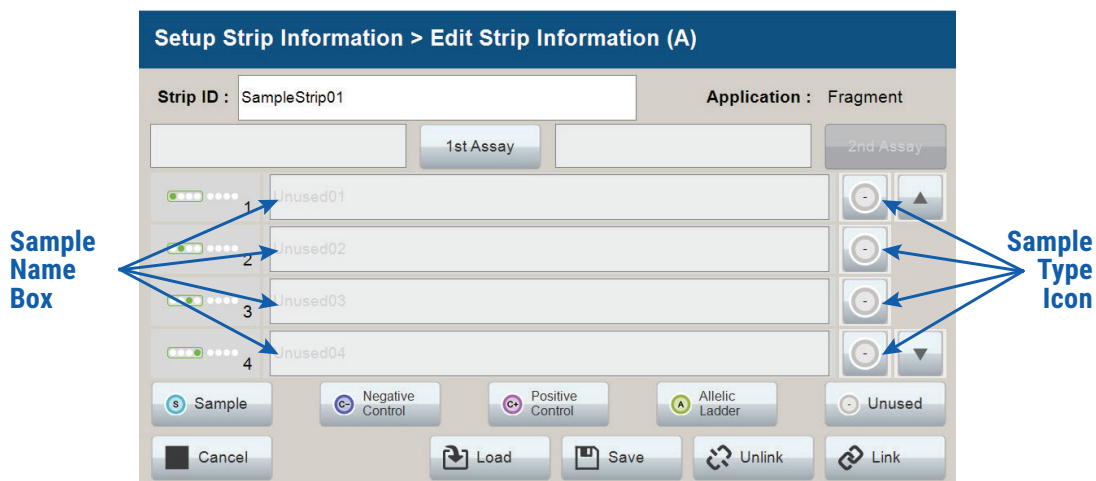
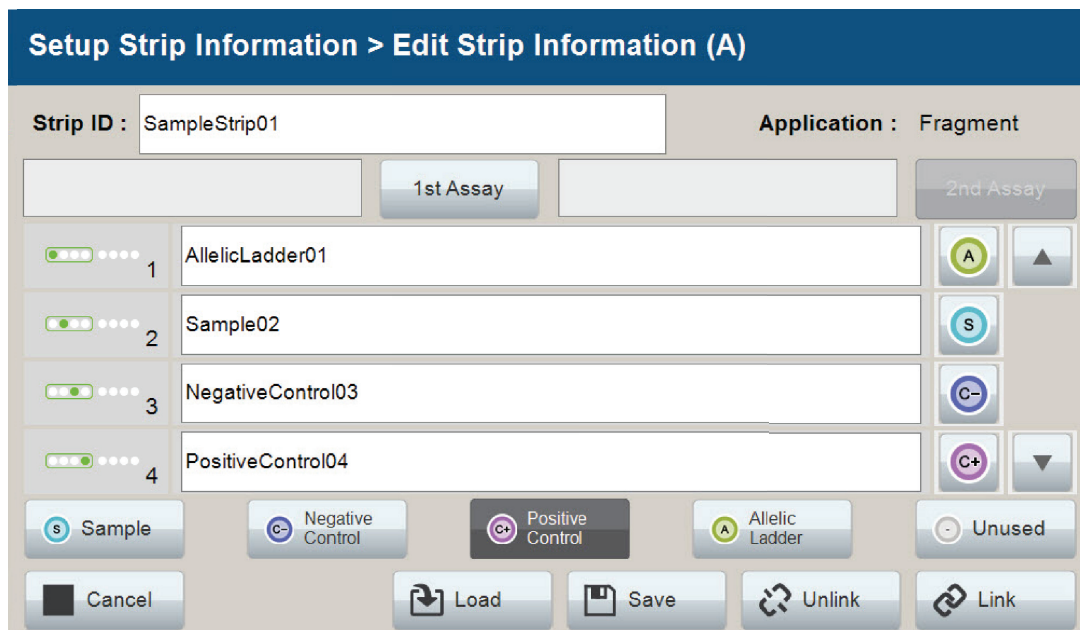
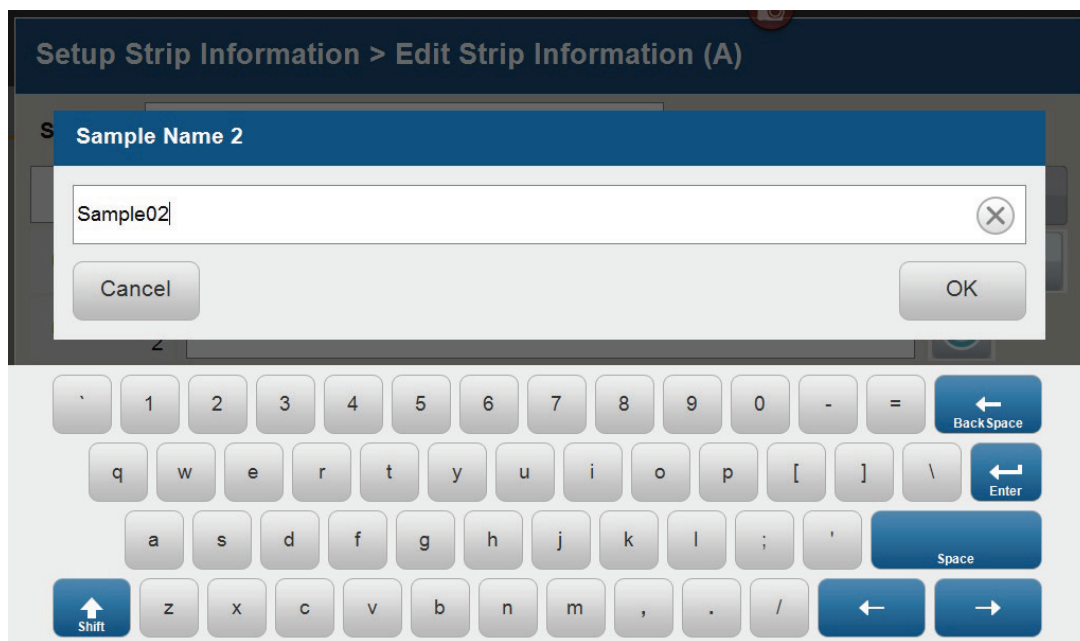
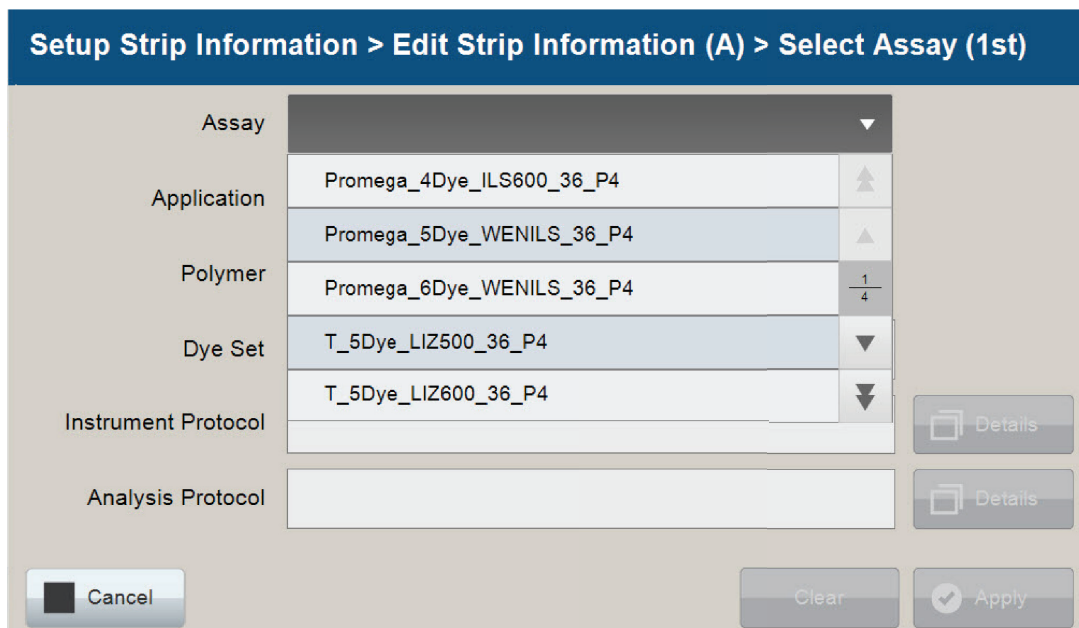

Figure 12. Sample Type and Sample Name on 'Edit Strip Information' screen.
Figure 13. Sample Name Entry on 'Edit Strip Information' screen.
Figure 14. 'Set Sample Name' window.
Figure 15. 'Select Assay' window.
4. Select a sample type on the 'Edit Strip Information' screen (Figure 12). Sample types must be selected for each well position before the Sample Name box becomes active for entry of sample name. Sample types are as follows.
5. To assign a sample type to a well, select the appropriate sample type along the bottom of the 'Edit Strip Information' screen (Figure 12), and then select the **Sample Type** icon to the right of the sample name field for the desired well. This icon will then display the sample type selected for that well (Figure 13).
6. Enter a sample name for each well position by selecting the Sample Name box adjacent to the well number on the 'Edit Strip Information' screen (Figure 13). This opens the 'Set Sample Name' window and a keypad will become active on the touch screen (Figure 14). Alternatively, the Sample Name can be entered using a traditional keyboard if one is connected to the Spectrum Compact CE System. Enter the appropriate sample name, and then select **OK** to exit and return to the 'Edit Strip Information' screen.
7. The Spectrum Compact Control Software includes preloaded run assays for use with chemistries available from Promega. Refer to the *Spectrum Compact CE System Operating Manual #TMD058* for information on creating or modifying assays. To assign a run assay to an injection set, select **1st Assay** on the right side of the 1st Assay field (Figure 13). This opens the 'Select Assay' window (Figure 15). Select "Promega_4Dye_ILS600_36_P4" from the drop-down list (Figure 15) and then select **Apply**.